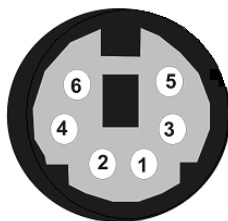

Figure 4-22: PS/2 Pinouts
- CN Pinouts:** See Figure 4-22 and Table 4-21